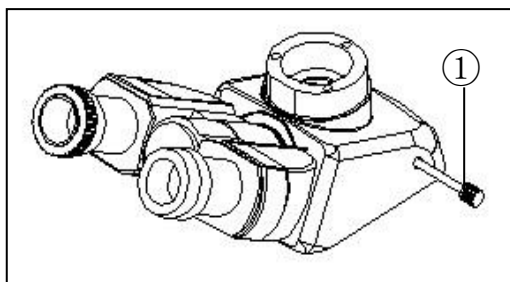

Fig.30
3.3.1 Selecting the Light Path (Fig.30)